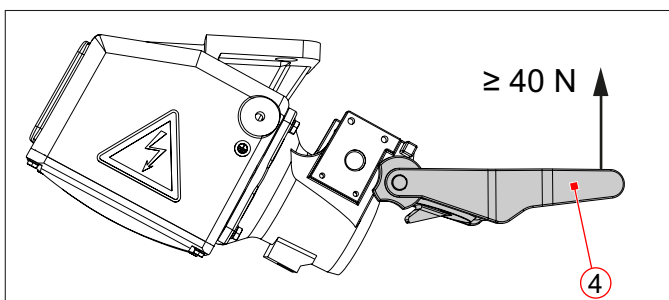

Fig. 47: Check the clamping force of the receptacle lid
- ▶ Open the receptacle lid up to 120° (Fig. 47).
- ▶ Measure the holding force at the handle (4) of the opened lid.